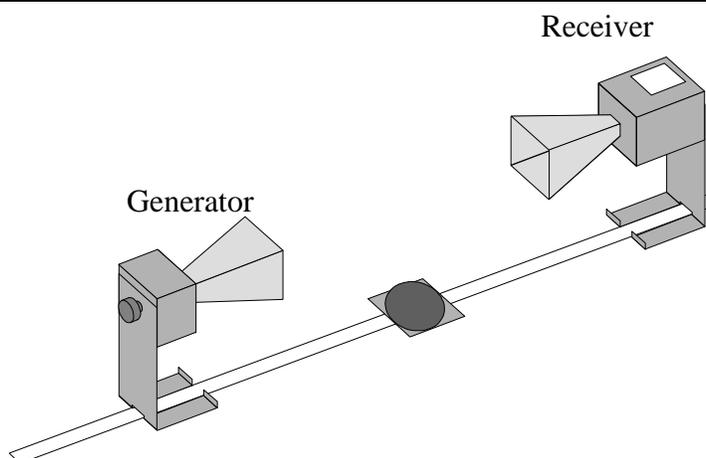

Figure 6
1. Refer to Figure 6. Place the generator (labeled transmitter) on the main arm of the goniometer such that entrance to the "horn" is between 30-40 from the goniometer's hinge (at the center of the circle). Place the receiver on the goniometer's shorter arm so that its horn is about the same distance from the hinge.